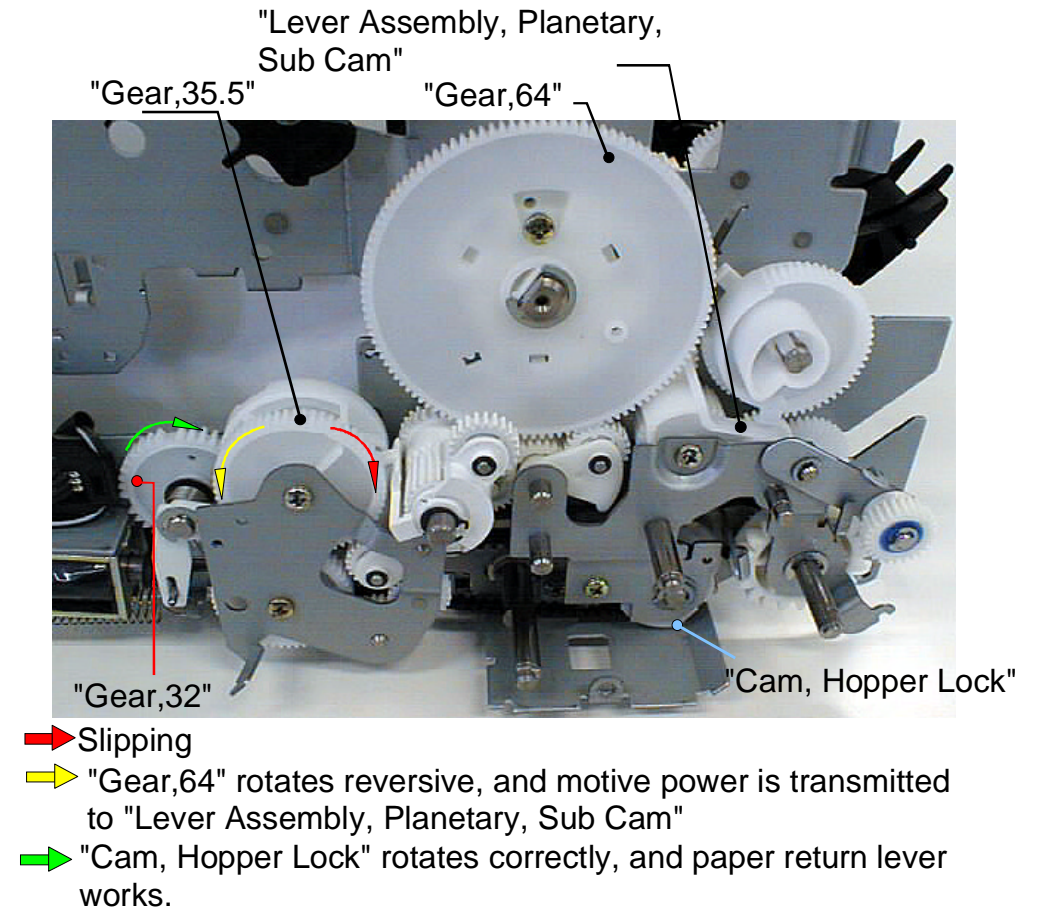

Figure 4-111. Checking operation of "Frame Assembly, Middle, Right"
31. Check the operation of "Frame Assembly, Middle, Right" by following procedures. (Refer to Figure4-111)